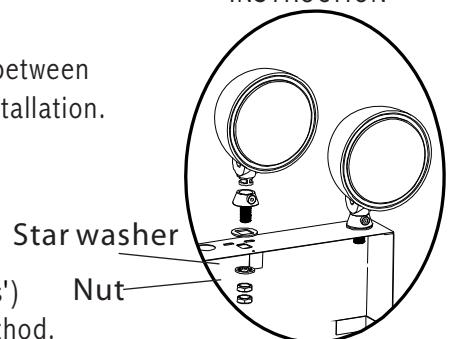

Fig. 1
2. Mount the head securely with the included nut (Fig. 1).